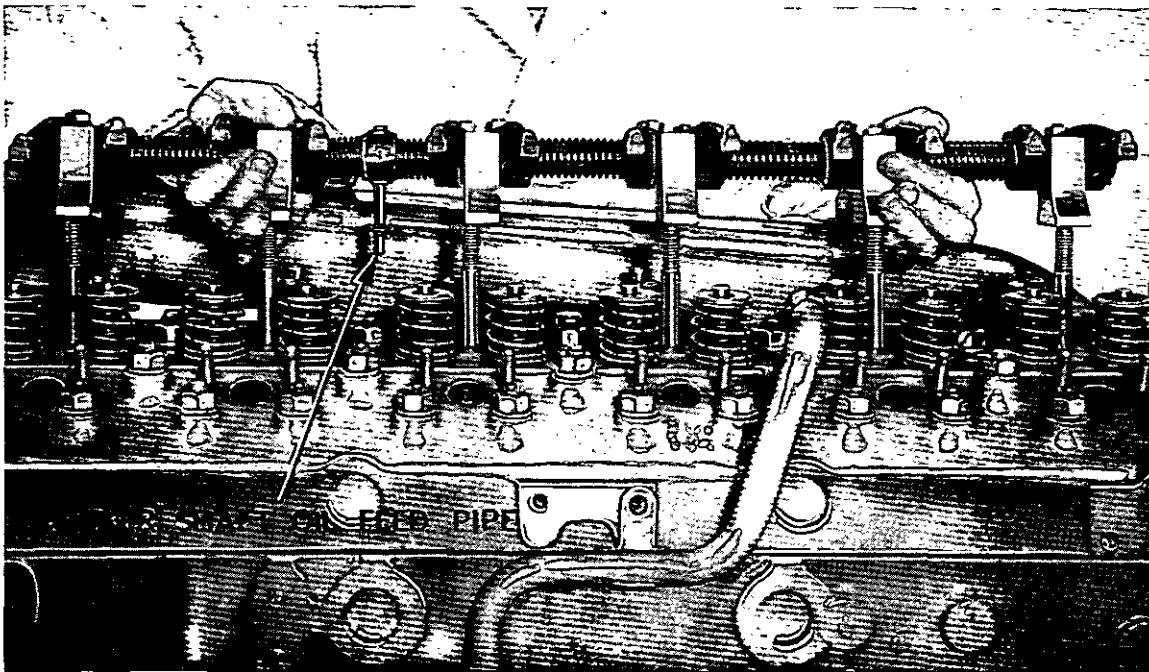

Fig. E.2. Removing Rocker Shaft Assembly.
13. Remove the rocker cover and rocker shaft assembly (Fig. E.2). The push rods may stick to the rockers and if they drop off they can drop through to the sump. To avoid this, lift the rocker shaft assembly a small amount and pull each push rod down to its seat in the tappet, then the rocker shaft can be lifted straight off. Remove push rods.